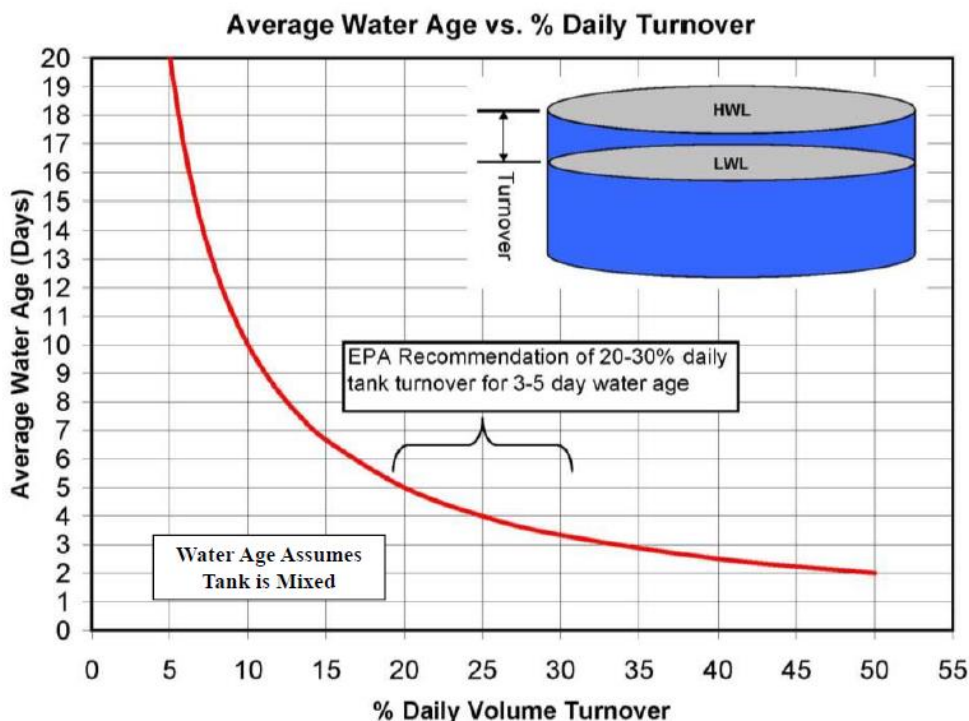
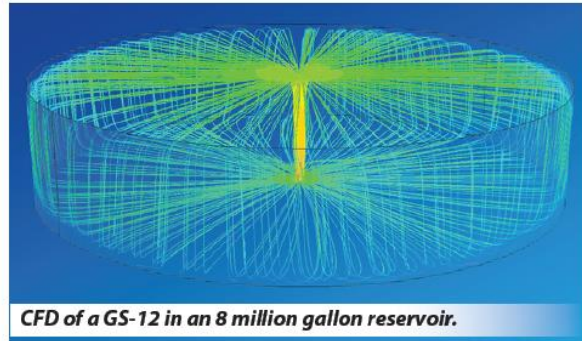

Figure 3. Water Age vs. Water Turnover in Storage Tank
Figure 4. Medora/SolarBee Mixing Scheme
With the daily exchange of water in the 2 MG tank of 5 feet elevation, this equates to a tank volume of 276,000 gallons. This volume of water is 15% of the total usable tank volume. This means that water has a theoretical age of 7 days, and this would be under the ideal case if the tank were fully and completely mixed. Federal standards recommend that a minimum of 20 to 30% tank exchange occur to achieve a water age in the 3 to 5 day range. With assistance from RedValve and available water age charts, the true water age in the 2 MG water tank is on the order of 20 days, factoring in that the tank has no mixing capability. Thus, a portion of water that reaches the farthest branches in the water system is on the order of 24 to 30 days aged. Mixing the water in the 2 MG water tank will bring water age closer to the 7 day age. However, the degree to which HAAs may be reduced is not certain. Refer to Figure 3.
- SolarBee/Medora Mixing System. Medora offers a simple tank mixing system, that is designed for easy “drop-in” installation. For this tank, Medora recommends a Model GS-12 mixer, rated at 0.5 HP. This mixer unit rests on the bottom of the tank, and provides “sheet mixing” currents that circulate water along the tank bottom, up tank walls and over the tank water surface in a circular fashion (see Figure 4). The mixer requires a 12” wide opening at the top of the tank, and requires 120V OR 240V power service to the top of the tank. A portrayal of the mixing pattern is shown at right in Figure 3. According to Medora, this 3-foot long mixer can be positioned directly below the hatch opening (it does not need to be centered in the tank), with the inlet to the mixer directed toward the center of the tank. This will allow installation with no tank roof modifications other than penetration of the power cord. It is recommended that the standard control panel be purchased, and mounted at ground level near the other electrical control panel.